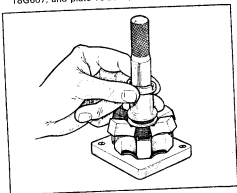

Fig.25 - Assembling the governor weights
- Fit the governor weights, thrust washers and thrust sleeve to the weight retainer, using the Locating pin 18G667, and plate 18G662, as shown in Fig. 25